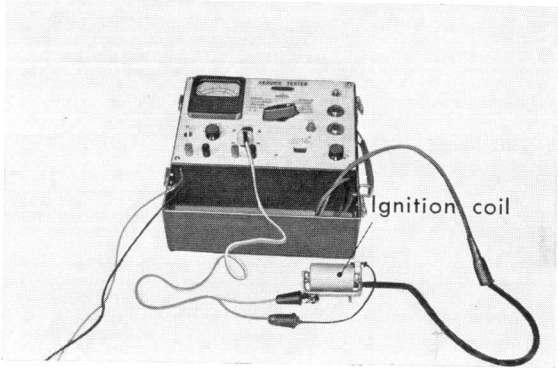

Figure 5-11. Testing ignition coil
- (2) Another method is to measure the resistance of the ignition coil and the flywheel A.C generator primary coil. (Fig. 5-11)